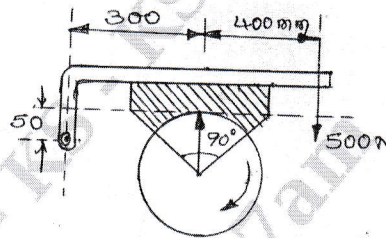

Fig. Q10 (a)
- 10 a. A single block brake with drum diameter of 350 mm is shown in Fig. Q10. The angle of contact is  $90^\circ$  coefficient of friction is 0.33. Determine safe power that can be absorbed at 1440 rpm. (10 Marks)